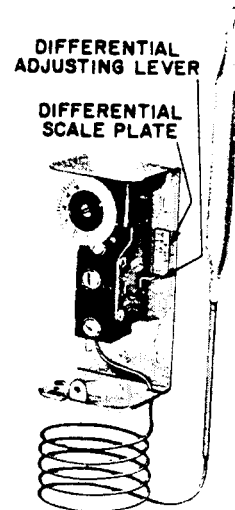
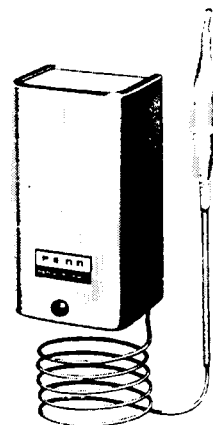
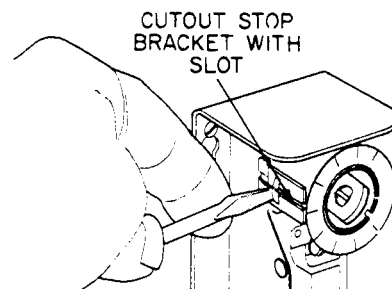

Fig. 1 — Series A19 with external range adjustment and screwdriver slot.
Fig. 7 — Series A19 with solid cover and concealed adjustment.
Fig. 8 — Sliding stop to front of control to set cutout stop.
Series A19 temperature controls may be supplied with an external range adjustment and screwdriver slot as shown in Fig. 1, range adjustment knob or solid cover (Fig. 7). Solid cover models with calibrated dial are adjusted by removing cover and moving dial so desired setting is in line with the slot in cutout stop bracket (see Fig. 8). Convertible adjustment models can be field converted from concealed screwdriver slot adjustment to knob adjustment or external screwdriver slot adjustment. They are supplied with a snap-in plug in the cover to provide concealed screwdriver slot adjustment. For knob adjustment remove the snap-in plug and assemble the knob to the slotted shaft by tightening the Allen-head screw in the center of the knob. For external screwdriver slot adjustment remove the snap-in plug. The convertible adjustment models with remote bulb include a bulb mounting clip.
Models with adjustable differential and ranges of 20/80° F (−5/28° C), −30/50° F (−35/10° C) and −30/100° F (−35/40° C) have a differential scale plate showing differential in degrees. Other ranges have a scale plate (see Fig. 1) with a multiplier shown. For example when "min" differential is 5° F (2.8° C) then X2 is 10° F (5.6° C), X3 is 15° F (8.3° C), etc. The controls are supplied with adjusting lever at minimum differential stamped on
3. Slide dial cutout stop to front of thermostat against plastic step behind dial as shown in Fig. 8. (On models with convertible adjustment loosen the stop screw, slide the screw to the desired stop setting and tighten screw, see Fig. 9.) Sometimes an exact stop setting is not possible and stop must be set to the closest step corresponding to dial setting required.